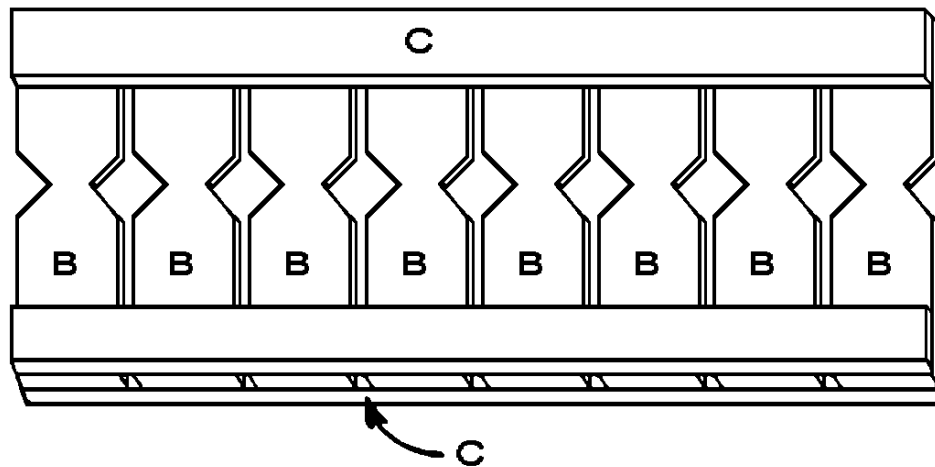

Figure 4
- Attach the vertical back pieces (B) to the two horizontals (C) using glue and 1-1/4"-long screws. One screw in each end of each of the verticals (B) should be sufficient.
- Place the remaining two horizontal back pieces (C) on top of the assembly, making sure to align them with the horizontals already attached. As shown in *Figure 4*, the verticals (B) are now sandwiched between the horizontals (C). Glue and screw the two unattached horizontal back pieces in place using eight 1-1/4"-long screws for each horizontal board. Place one screw over the center of each end of each of the verticals (B).